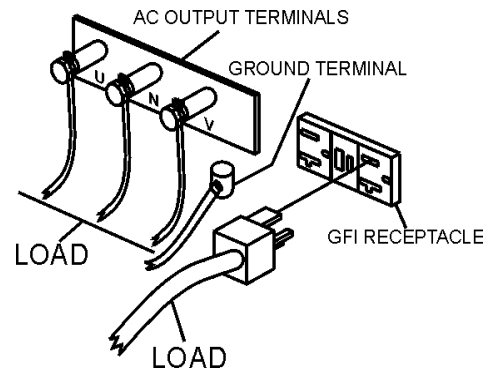

Figure 45. UNV Terminal Lugs (Load)
2. Connect the load to the UNV terminals as shown in Figure 45. These terminals can be found on the output terminal panel, (see page 35 Figure 16). To gain access to the output terminals lift the UNV cover. Tighten terminal nuts securely to prevent load wires from slipping out.